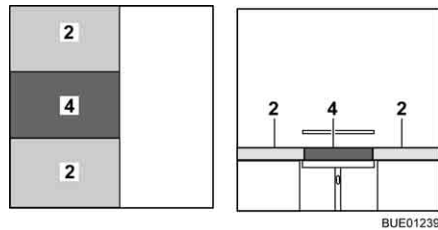

Fig. 124 After conversion
- Place the additional cushion (Fig. 124,4) between the seat cushions (Fig. 124,2).